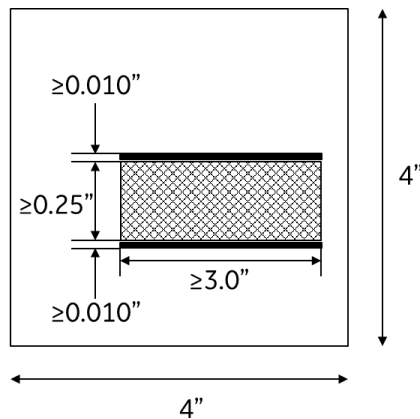

Figure 5. Sandwich Beam Maximum Dimensions
3.5. Criteria for Sandwich Bridges. Sandwich bridges must maintain a constant cross-sectional area along the length. The cross-sectional width shall be at least 3.0 inches. The facesheets shall be at least 0.010 inches thick. The core shall be at least 0.25 inches thick. The core type may vary within the cross-section and along the length. There shall be no reinforcing webs, trusses or posts through the thickness or perpendicular to the facesheets. The maximum dimensions for a sandwich beam are shown in Figure 5.